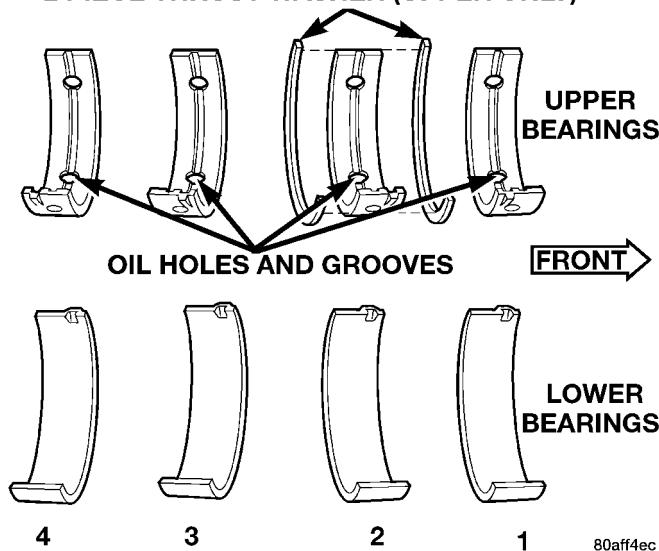

Fig. 63 Main Bearing Identification
(1) Install crankshaft main bearings (Fig. 63). (Refer to 9 - ENGINE/ENGINE BLOCK/CRANKSHAFT MAIN BEARINGS - STANDARD PROCEDURE)